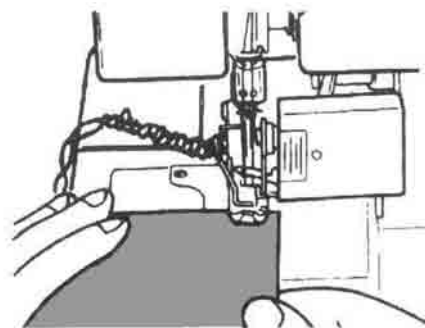

Fig. 51
- Place the fabric from the front under the sewing foot 21 and sew a test seam (Fig. 51). Under no circumstances should you pull on the textile, otherwise the needle will be bent or could even break off.